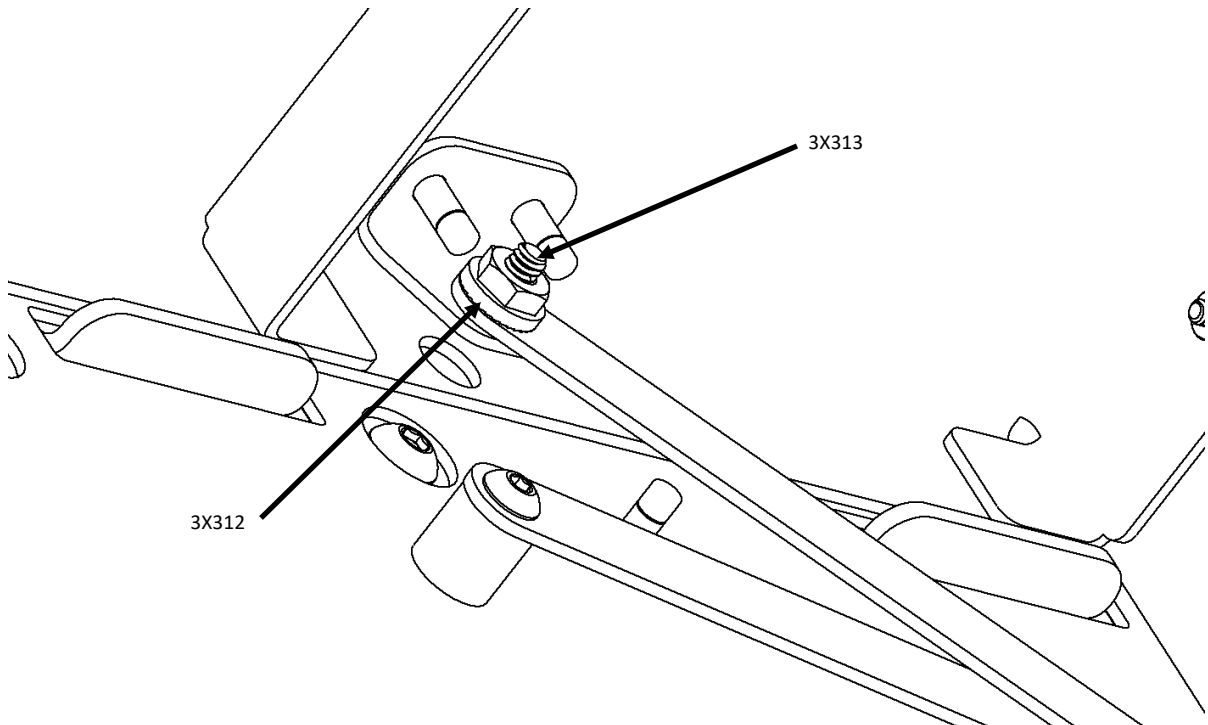

Figure 14
1. Locate (6) [3X313] 10-24 X 1/2" Button Socket Head Cap Screws and (6) [3X312] 10-24 Nylon Locknut.
2. Attach the long leg of the Support Hinge to the bracket on the underside of the Cargo Lid Assembly with a screw and locknut using a #10 hex drive as shown in Figure 14. Repeat this until all 6 Support Hinges are attached to the lids.